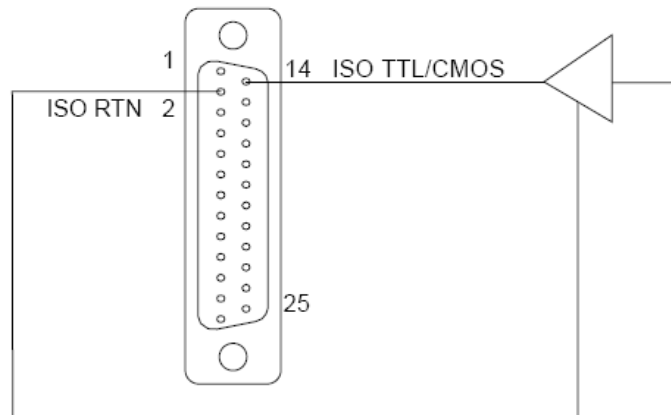

**FIGURE 3.7 REMOTE OUTPUT ON/OFF CONTROL BY CONTACT CLOSURE**
1. Remote output on/off by contact closure. Output is on when contacts (J1-5 and J1-6) are closed. See Figure 3.7 for connection requirements.